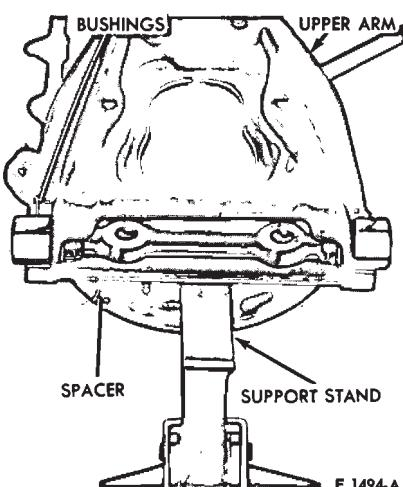

FIG. 8—Torque Upper Arm Inner Shaft Bushings—Typical
11. Position the spacer parallel with the inner shaft, and force the spacer between the flanges of the upper arm (Fig. 8).